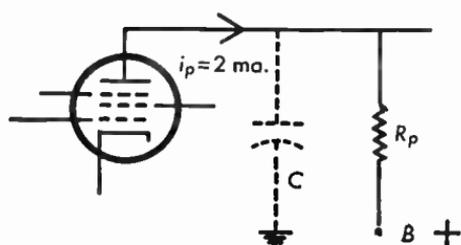

Fig. 11.35 Constant-current tube with resistive-capacitive load.
11.35 The amplifier of Figure 11.35 has a total shunt capacitance of 40 micromicrofarads. Calculate the output voltage for 1 kilocycle and 1 megacycle,